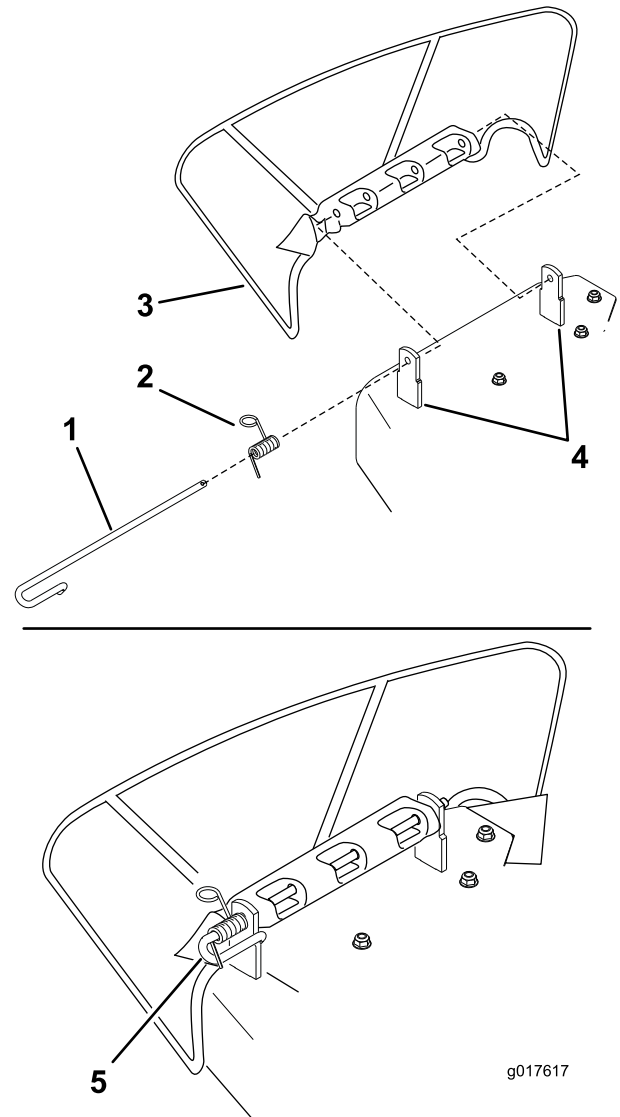

Figure 60
- Disengage the spring from the notch in the deflector bracket and slide the rod out of the welded deck brackets, spring, and discharge deflector (Figure 60).